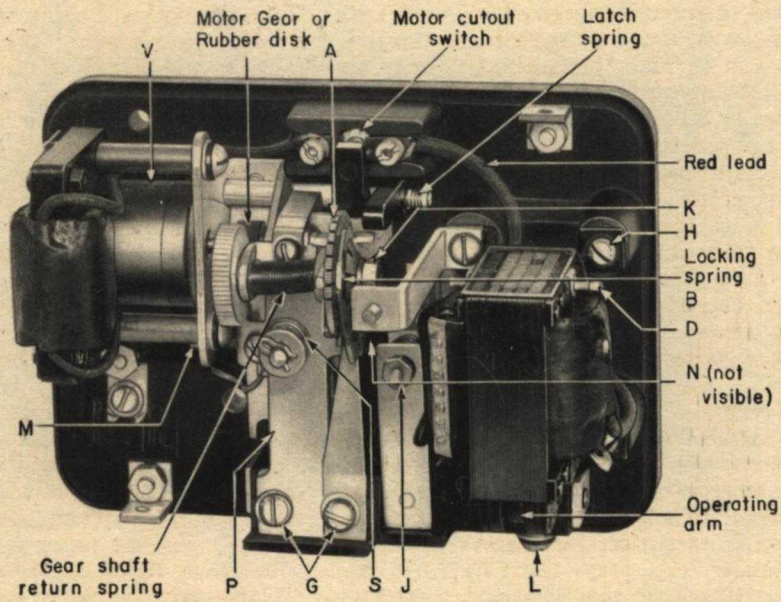
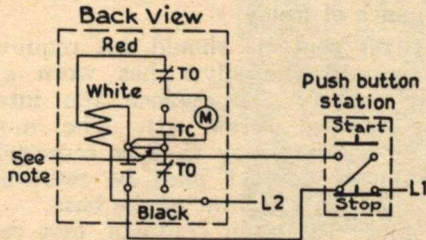

Fig. 2. Another View of Relay Shown in Fig. 1
Fig. 3. Connections with Momentary-contact Push-button Station
The CR2820-1099 time-delay relay is driven by a synchronous motor suitable for use on alternating current only. When the relay is energized, the solenoid engages the motor with the contact-operating mechanism; a tap on the solenoid provides the correct voltage for the motor. After the predetermined time interval has elapsed, the normally open contact (TC) closes, the normally closed contact (TO) opens (See Fig. 3 and 4), and the motor cutout switch (TO) disconnects the motor. The contacts remain in the timed-out position until the relay is de-energized, at which time the solenoid drops out and the contacts are reset instantly to their original position.
An interlock contact (J), Fig. 2, is provided to establish a holding circuit when the relay is energized from a momentary-contact push button as shown in Fig. 3. This contact is normally open, and closes when the solenoid is energized.
NOTE: If the relay studs in Fig. 3 and 4 are connected by a punching, as indicated, the punching should be removed unless the wiring diagram shows these studs connected together.
Spring (S, Fig. 2). Used only for relays having rubber disk drive . . . . .	235182